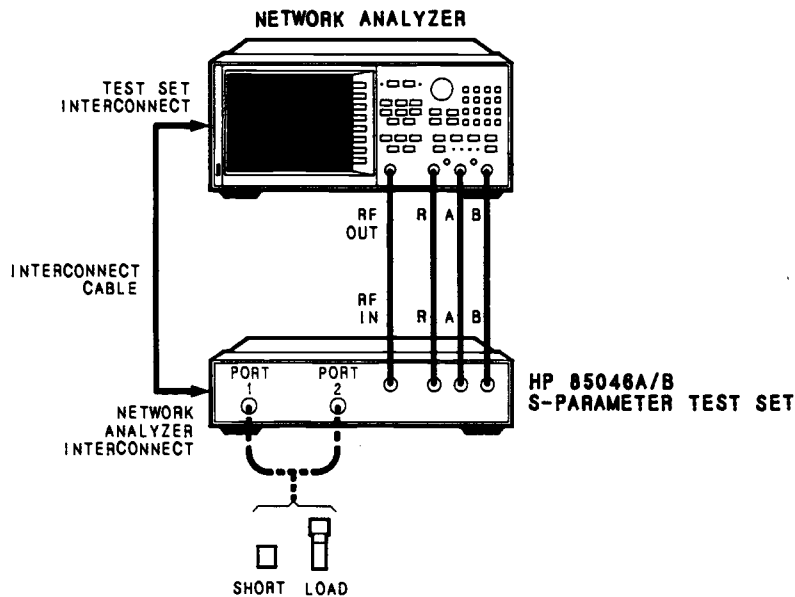

Figure 4-1. Directivity Test Setup
1. Connect the equipment as shown in Figure 4-1 and turn on the analyzer. Allow 30 minutes for warm-up.